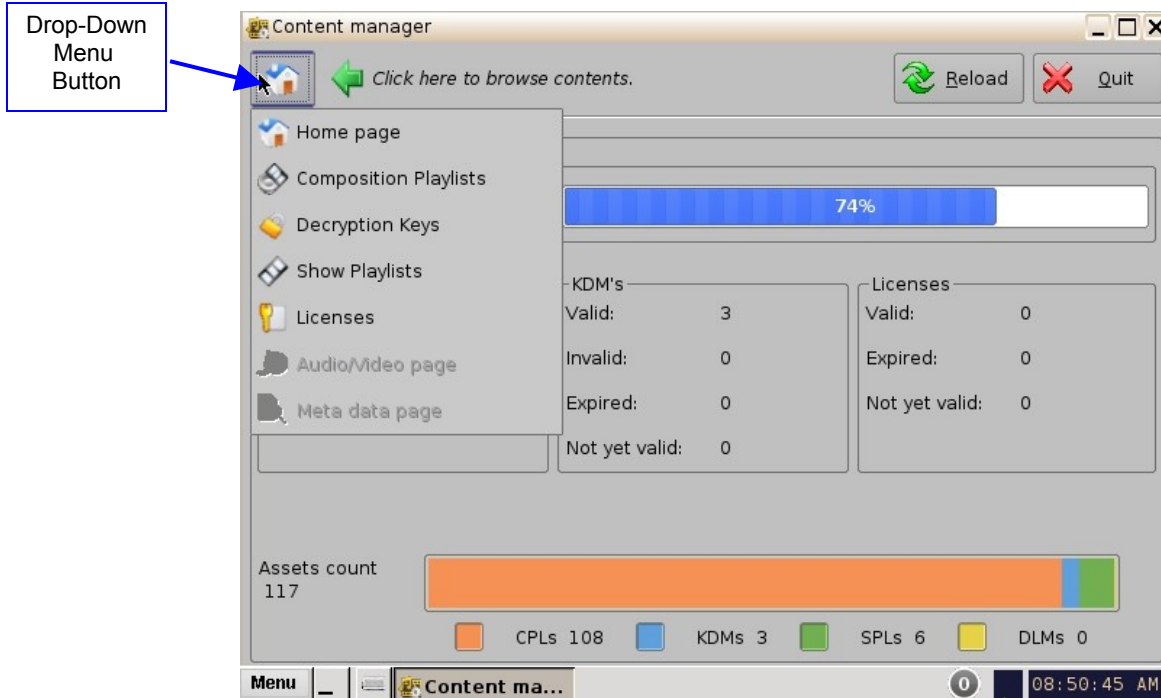

Figure 55: Content Manager Home Page Tab
- These pages will show the user all details for the Composition Playlists, Decryption Keys, Show Playlists, Licenses and other related fields that are on the unit (Figure 55).